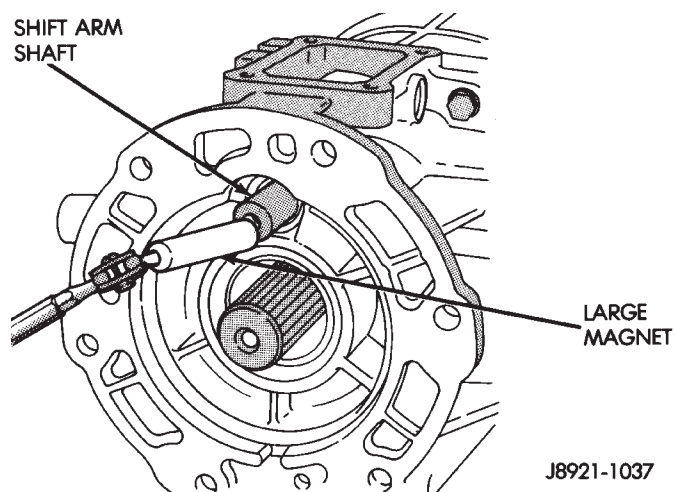

Fig. 25 Remove Shifter Shaft
- (13) Remove shifter shaft with large magnet (Fig. 25).
- (14) Remove the shift arm from the adapter housing.